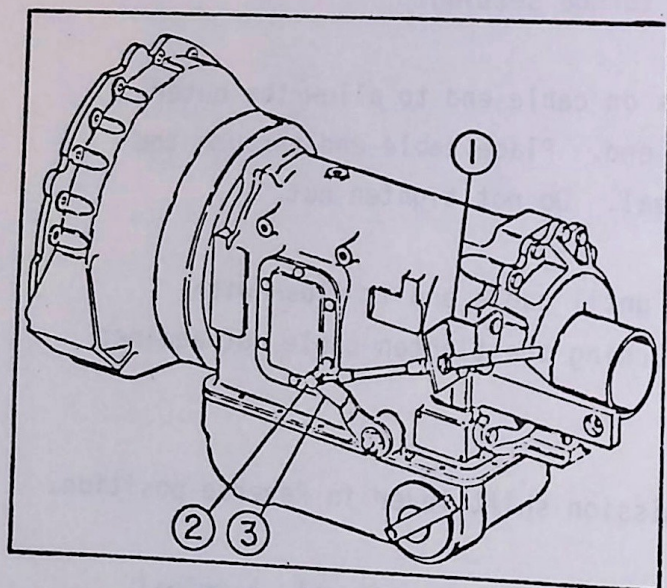

FIGURE 2-1
2.1.1 Attach bracket (1) to transmission, using the two bolts on rear flange, as shown in Figure 2-1. Retighten bolts to original torque setting.